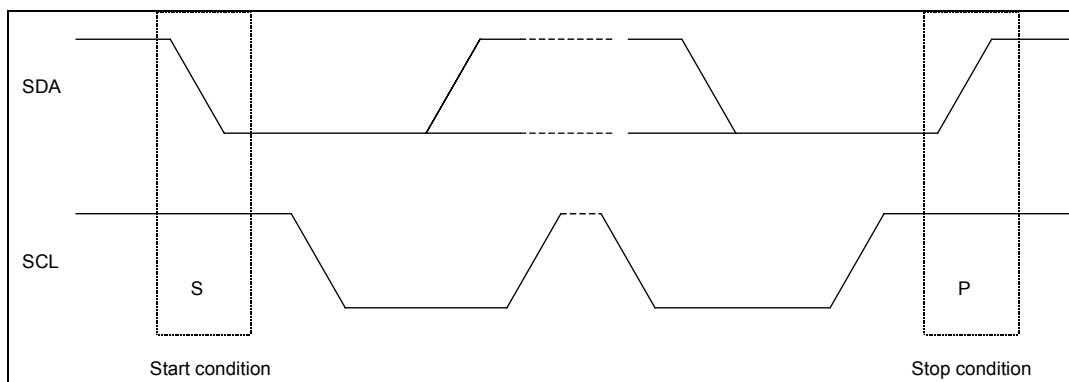

Figure 4: I²C start and stop conditions
Data transfer begins by a falling edge on SDA when SCL is at high level, this is the start condition (S), initiated by the I²C bus master. It is stopped with a rising edge on SDA when SCL is at high level, this is the stop condition (P) (see Figure 4: I²C start and stop conditions).